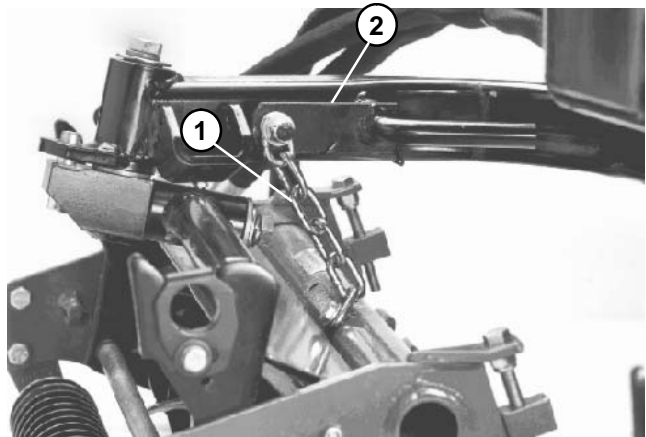

Figure 18
2. Disconnect chain from cross tube on each rear cutting unit (Fig. 18).
4. Connect chain to the cross tube on each rear cutting unit (Fig. 18).